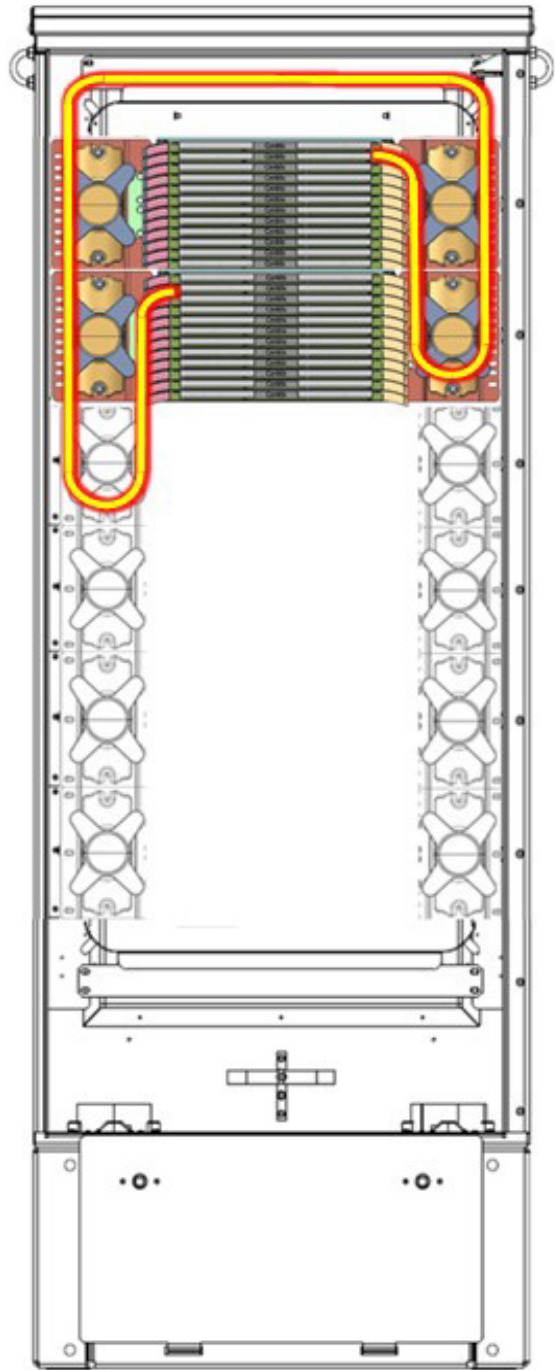

Figure 19
Step 2: When routing jumpers from one housing to external equipment, attach jumpers to the strain relief bracket with cable ties (Figure 19). Jumpers may be routed through knockouts in the bottom of the OCC unit.